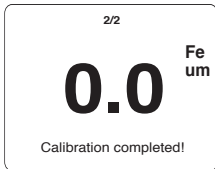

Figure 7
7. Lift the instrument after 2 seconds. Zero will be displayed (as shown in Figure 7).